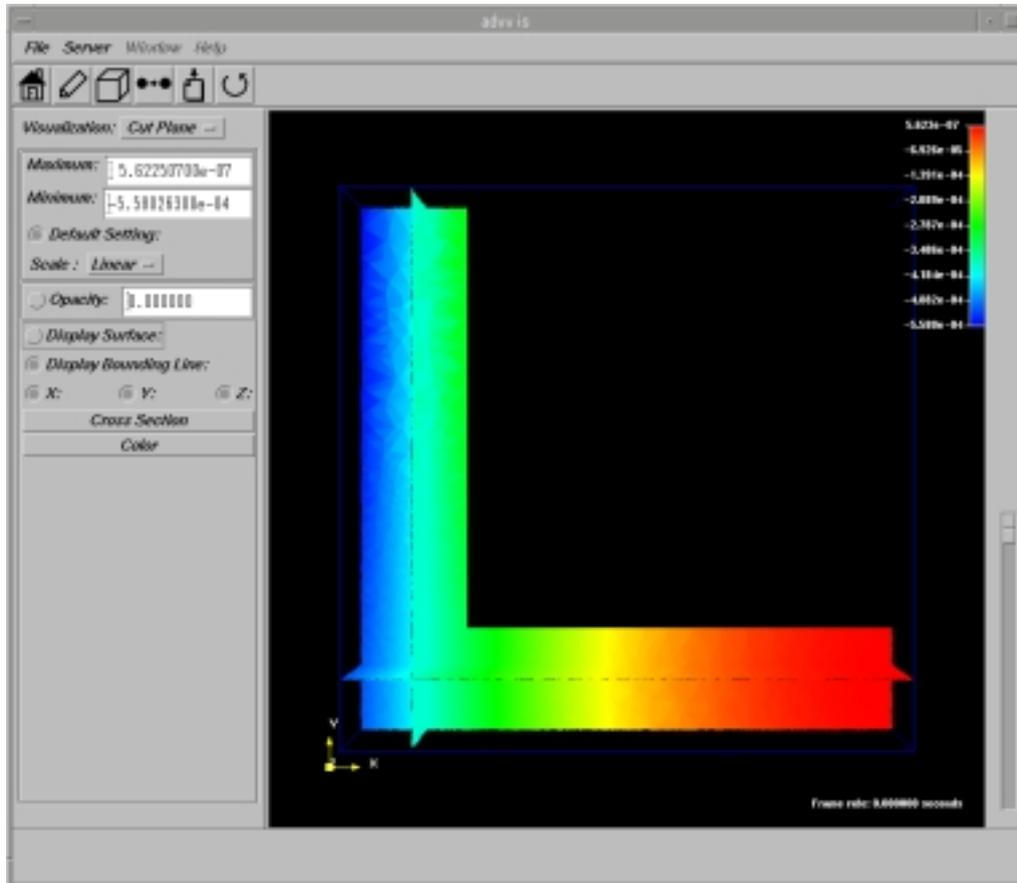

Fig. 7-25. Section Scalar Display (surface is not displayed)
5. When the **Display Surface** toggle button located on the left of the main window is turned off, the surface display is excluded as shown in Fig. 7-25. When the **Display Surface** toggle button is turned on, the surface is displayed together with the section scalar distribution.